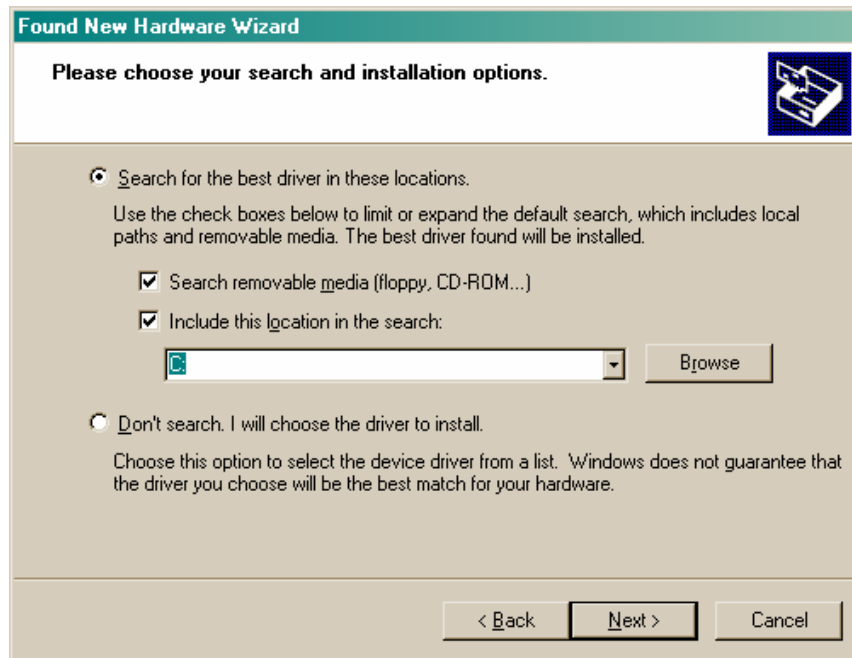

Figure 14
4. After selecting list or specific location, the New Hardware Wizard window will appear as seen in Figure 14. In Figure 14, the user must make sure the following items are selected with a black dot or check mark: **Search for the best driver in these locations**, **Include this location in the search**:. When **Include this location in the search**: is checked the pushbutton labeled **Browse** should be